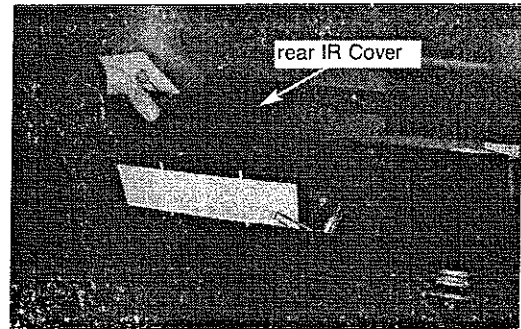

Fig 27
3. Grasp rear infrared cover, lift and remove it from the grill. (See Fig. 27)